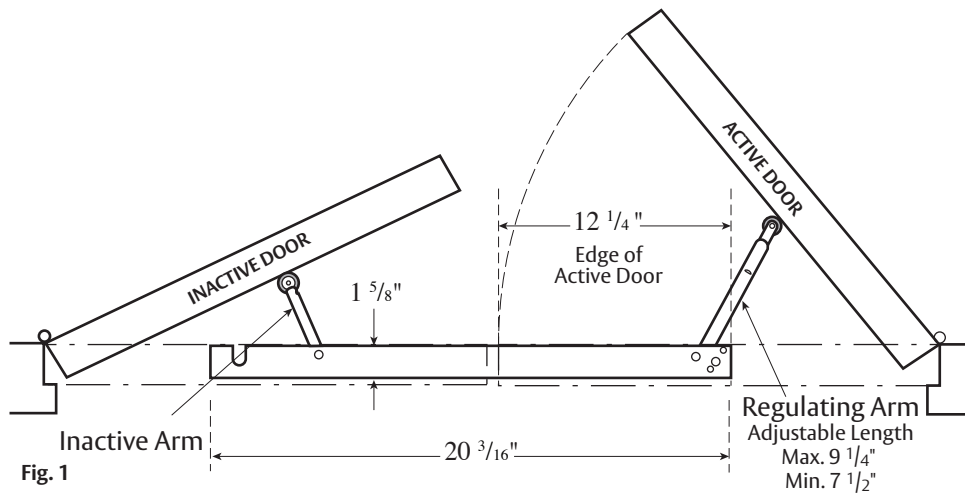

Fig. 1
1. Before spotting holes, inactive (short) arm must be oriented with inactive door prep frame (Fig. 1).
2. Mount coordinator with (4) #10-24 machine screws or (4) #10 wood screws (Fig. 1 & 2).